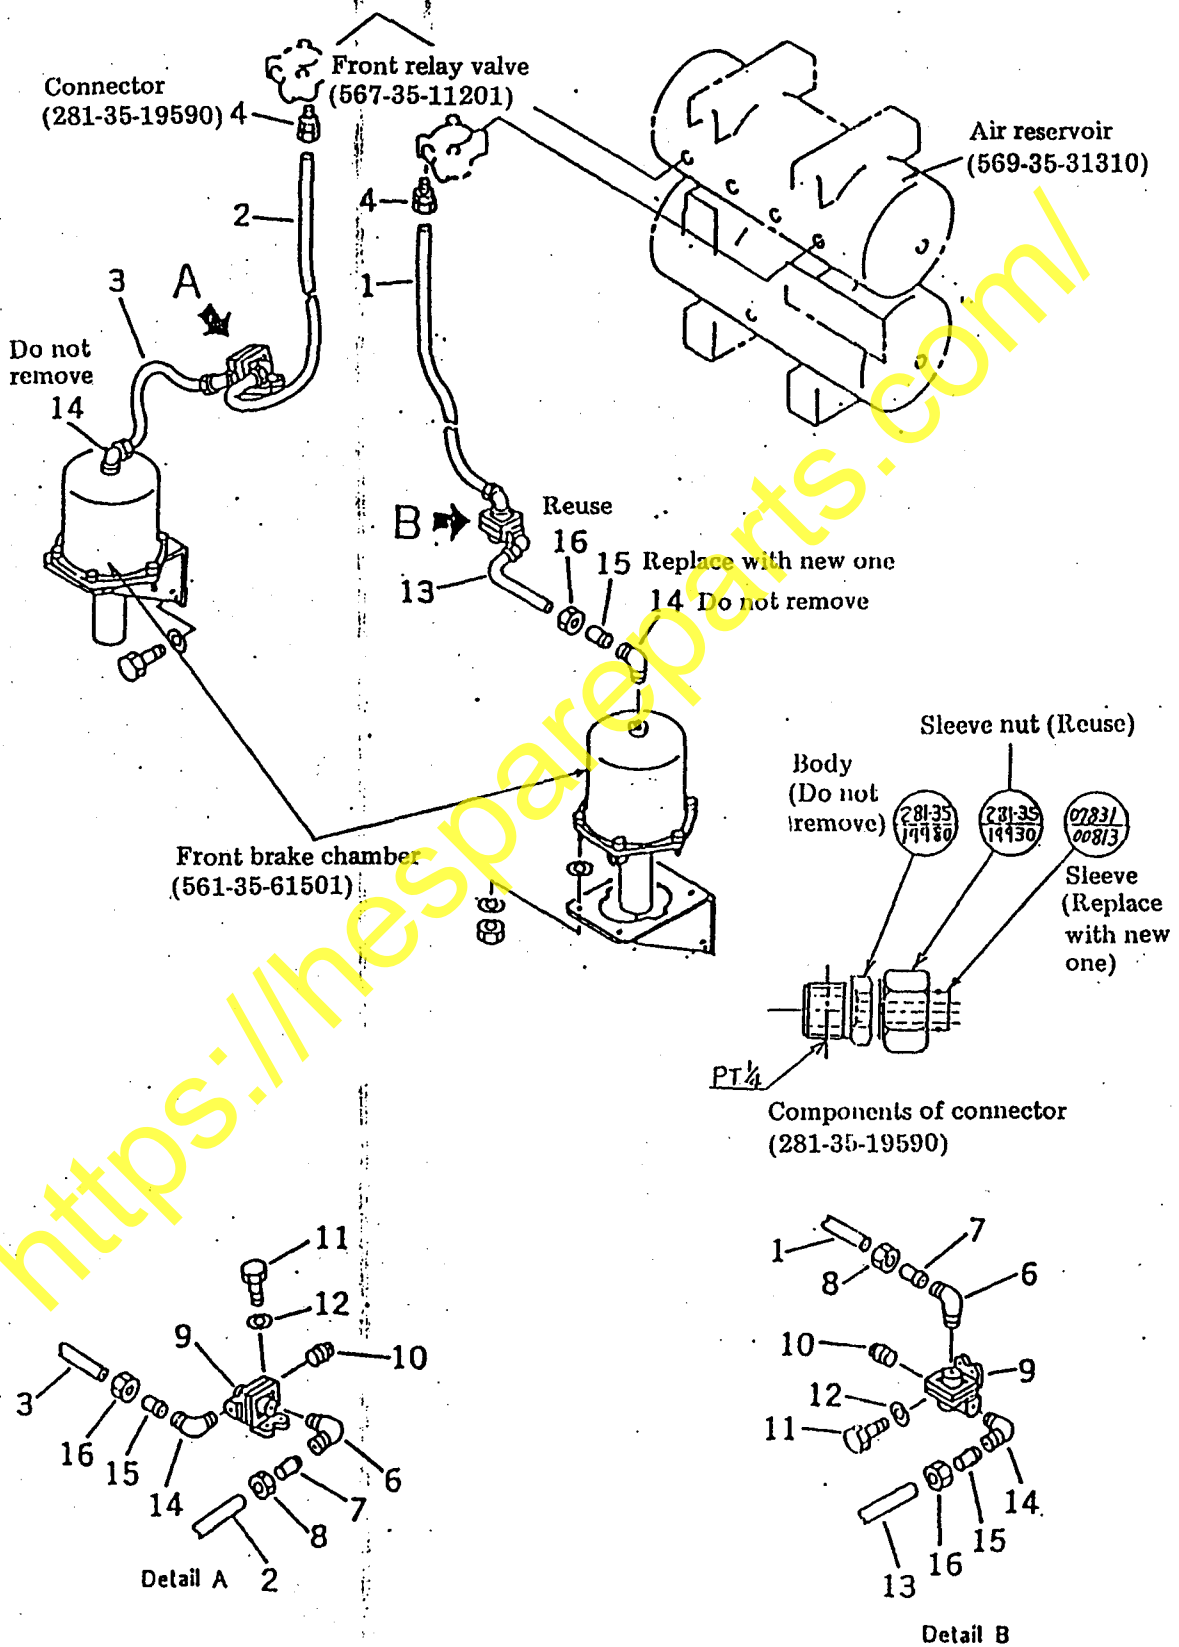

Fig. 1 Removing the front quick release valve
- (1) Removing the front quick release valve (See Fig. 1 based on Fig. 3503B in parts book)